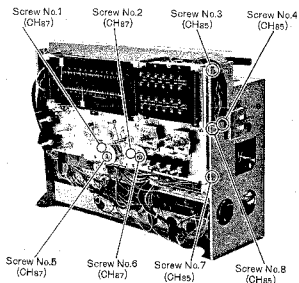

Fig. 13
2. Loosen the four (4) dial drum screws (nos. 1, 2, 5 & 6), as shown in fig. 13.
4. Remove the four (4) front chassis screws (nos. 3, 4, 7 & 8), as shown in fig. 13.